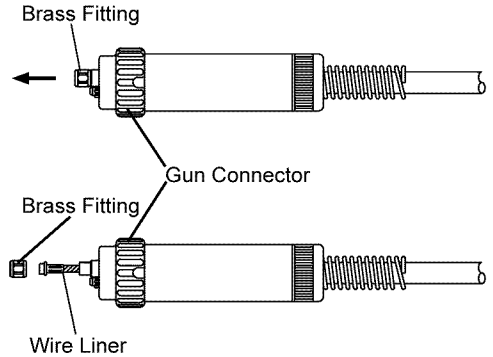

Figure 21. Replacing a Wire Liner
3. Using a 12 millimeter wrench, loosen and remove the brass fitting which extends from the end of the torch connector (See Figure 21)